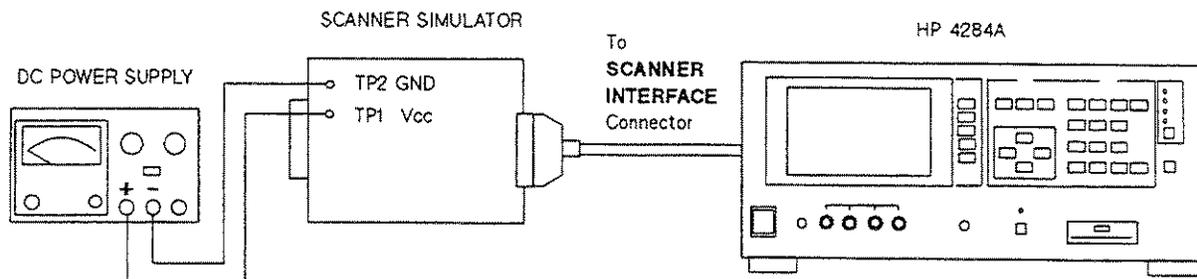

Figure 10-21. Scanner Simulator Connections
5. Connect TP2 (GND) on the A7 digital control board to the TP2 (GND) on the simulator board. Then connect TP1 on the A7 board to TP1 (5 V or Vcc) on the simulator board. Figure 10-21 shows the location of TP1 and TP2 on the A7 board.